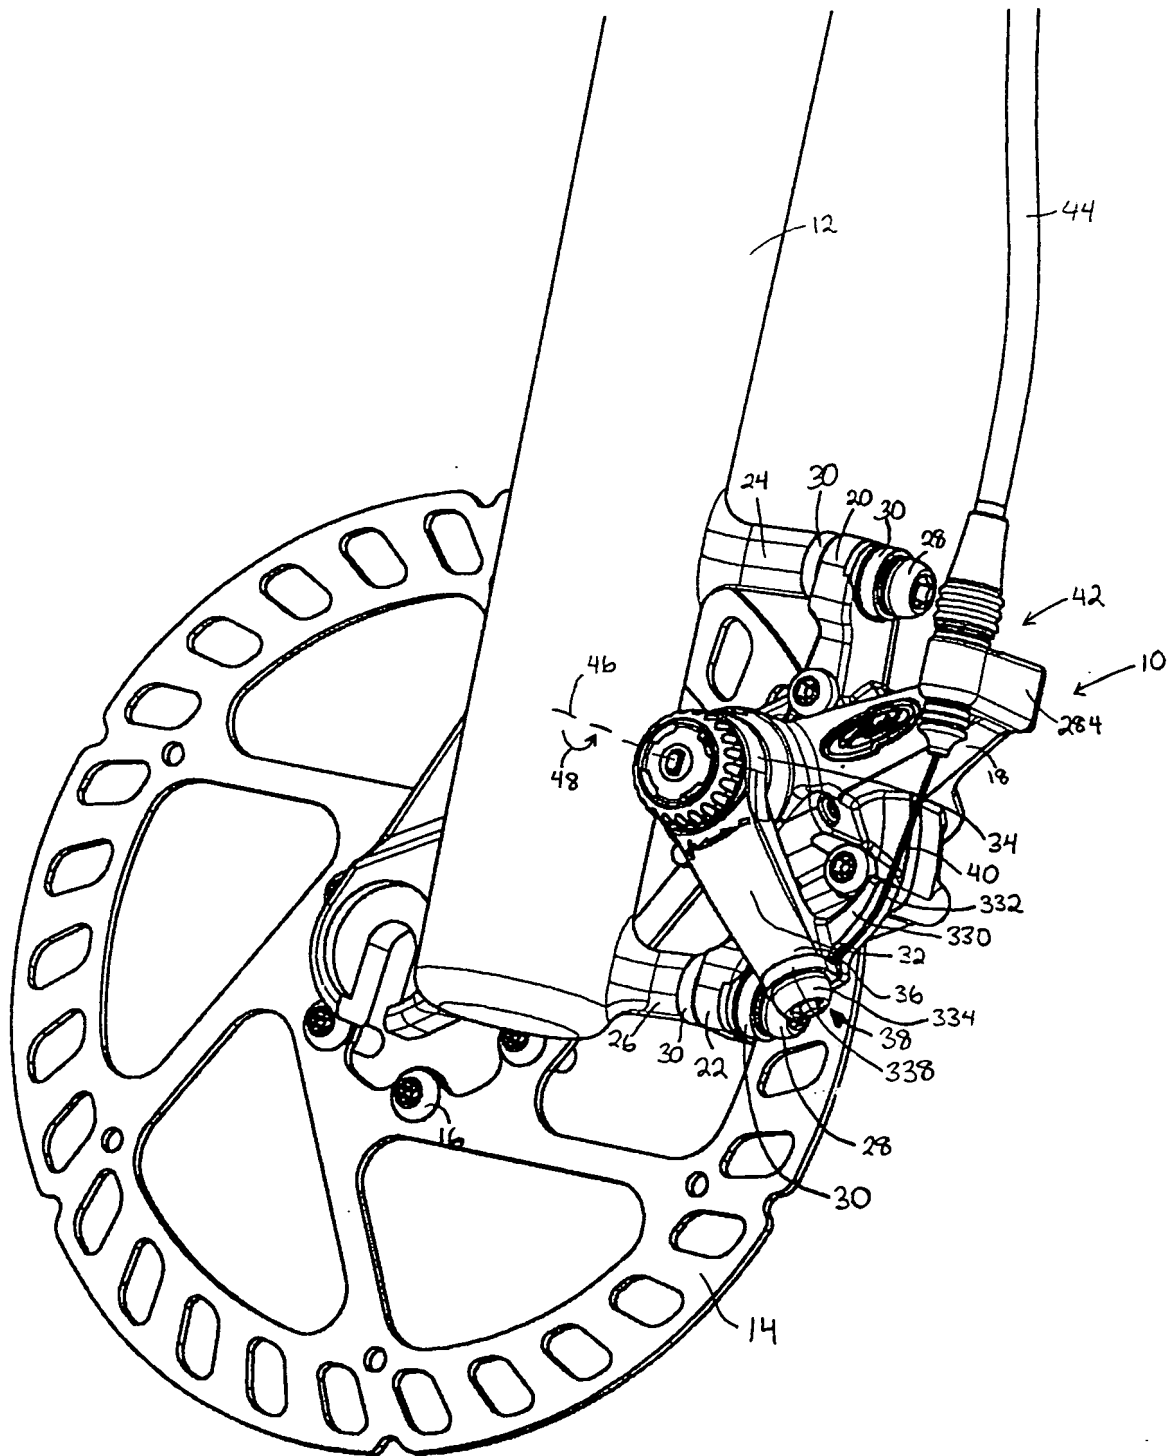

Fig. 1
FIG. 1 is a perspective view of a bicycle seat assembly. The assembly includes a seat post (184) with a seat clamp (186) and a seat (220). The seat is mounted on a seat rail (222) which is connected to a seat post clamp (224). A seat post cap (410) is shown at the top of the seat post. The seat has a "Fidel" logo.